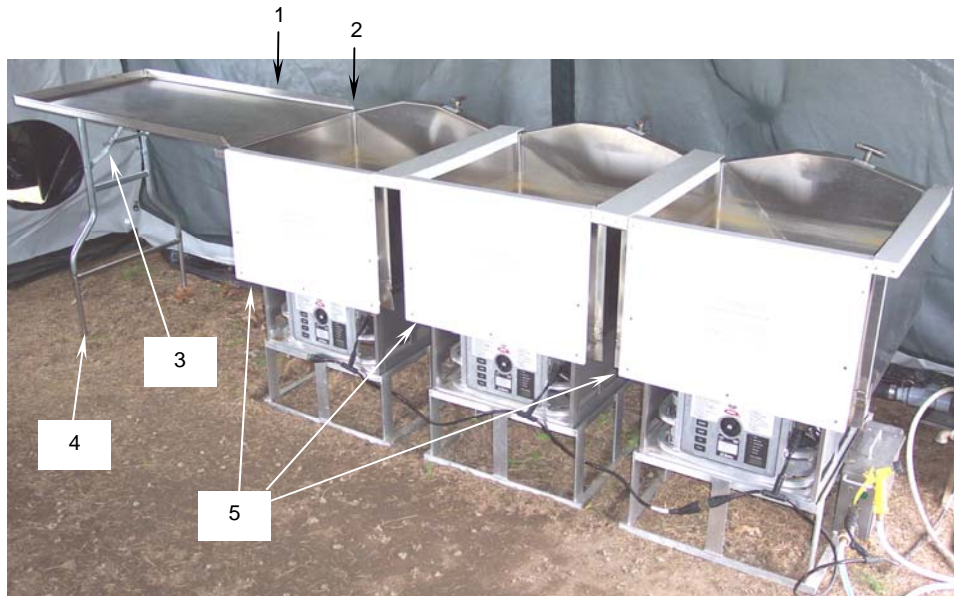

Figure 32. Disassembling the Drain Table.
- a. Detach the drain table (**Figure 32, Item 1**) from the rim (**Figure 32, Item 2**) of the sink assembly.
- b. Turn the drain table upside down and push-in the linkage (**Figure 32, Item 3**) from its fully extended position. Fold the table legs (**Figure 32, Item 4**).
- c. Remove the sink front heat shields (**Figure 32, Item 5**) from the front of the sinks.